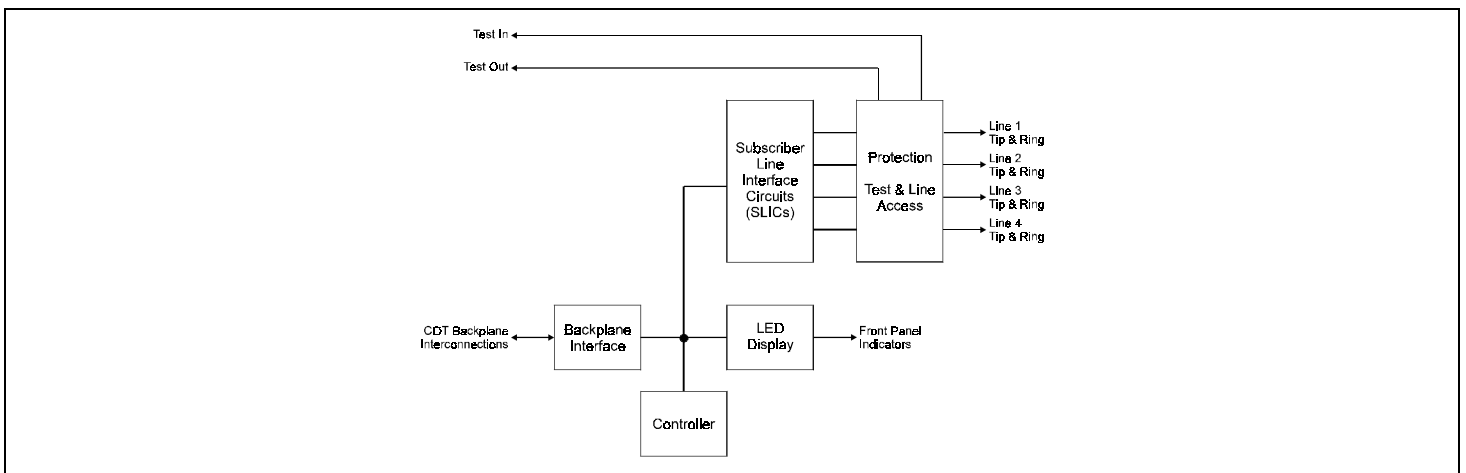

Figure 3. FRC-752 Block Diagram.
6.02 A block diagram of the FRC-752 is shown in Figure 3.